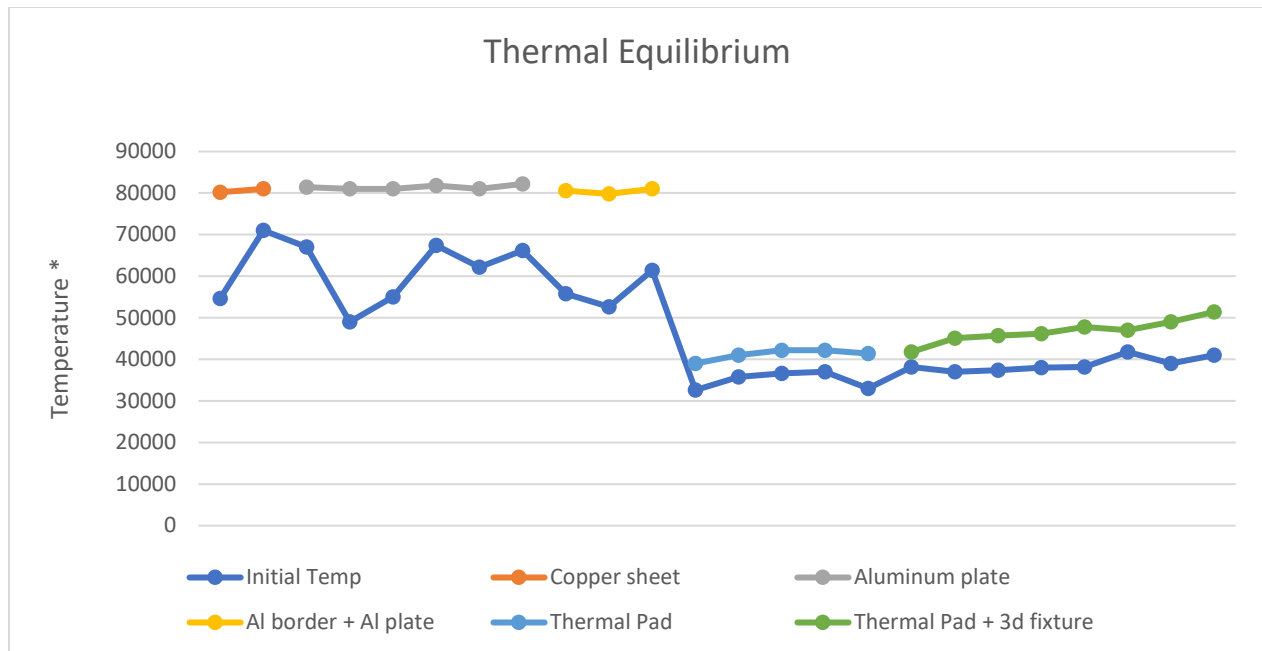

Figure 6: Thermal equilibrium for each heat sink.
Fig 6 describes the initial temperature and the highest temperature the system reaches with the heat sink.
3. Figure 6 compares the thermal equilibrium of each of the heat sink setups we have used. Thermal pad gives almost half the temperature as others.